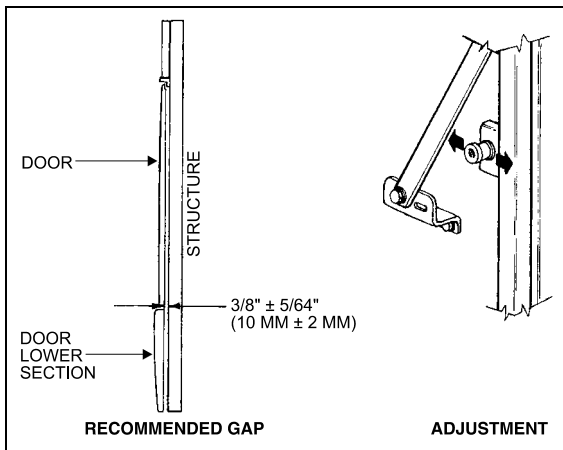

FIGURE 51: BAGGAGE COMPARTMENT DOOR 18070
- With door shut, it should have a gap of $3/8'' \pm 5/64''$ (10mm \pm 2mm) between door panel lip (at level of upper edge of lower section) and structural post. If not, move pins horizontally until correct gap is obtained. Fully tighten the pins after adjustment is achieved (Fig. 51).